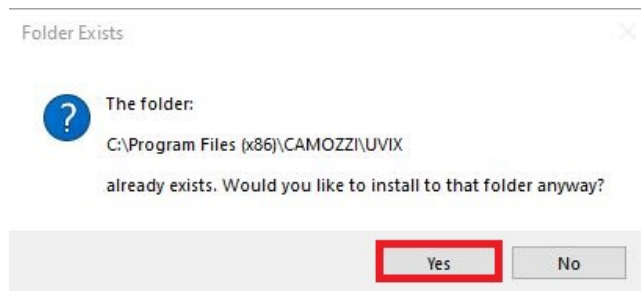

Figure 4.14: Confirm Destination Folder
- 4. If the folder already exists, confirm that you want to proceed by clicking "Yes," as shown in figure 4.14.